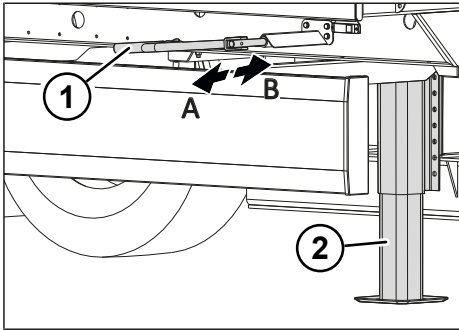

Fig. 5-2: Load speed and rapid speed of the landing leg winch
- ▶ Switch on rapid speed by pulling out the hand crank (see "Fig. 5-2: Load speed and rapid speed of the landing leg winch", pg. 25).
- ▶ Switch on load speed by pushing in the hand crank (see "Fig. 5-2: Load speed and rapid speed of the landing leg winch", pg. 25).
- ▶ Set to load speed by pushing in the hand crank (see "Fig. 5-2: Load speed and rapid speed of the landing leg winch", pg. 25).
- ▶ Set to high speed by pulling out the hand crank (see "Fig. 5-2: Load speed and rapid speed of the landing leg winch", pg. 25).